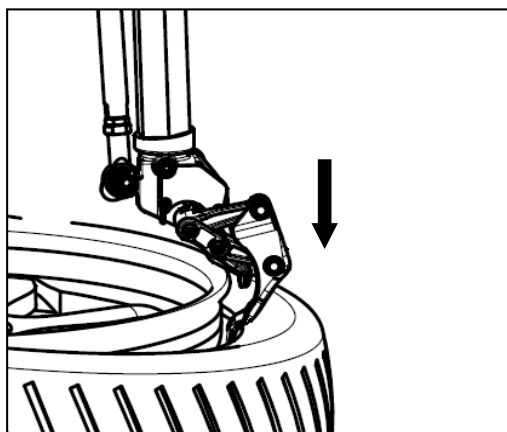

FIG14
- Pull down the control valve (FIG2-18) of demounting hook to make the demounting hook enter the inner side of tire lip. If the demounting hook does not insert into the inside of tire lip when down to the bottom, step the rotation pedal to rotate the turntable a little to make the hook insert into the inside of tire lip like the FIG14.